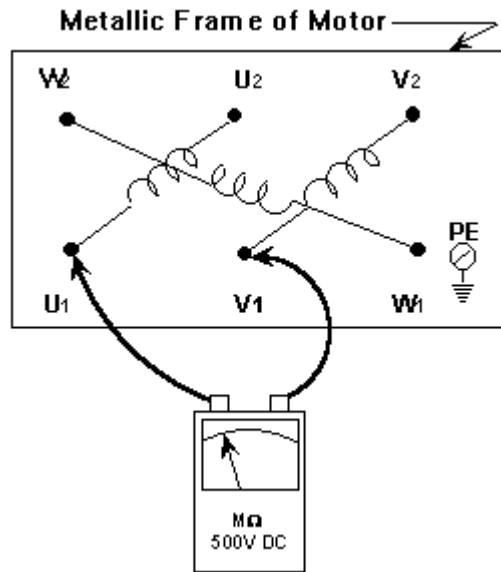

Figure 26
Step 1: Insulation Resistance Test between windings U and V. See Figure 26.